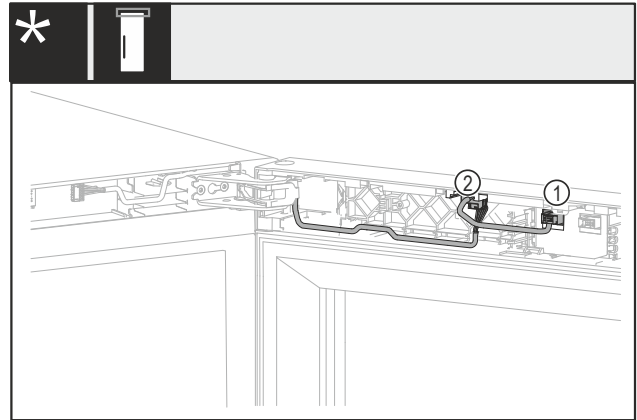

Fig. 17 Without lock or with mechanical lock*
- Pull out the plug. Fig. 17 (1)*
- Pull out the plug. Fig. 17 (2)*